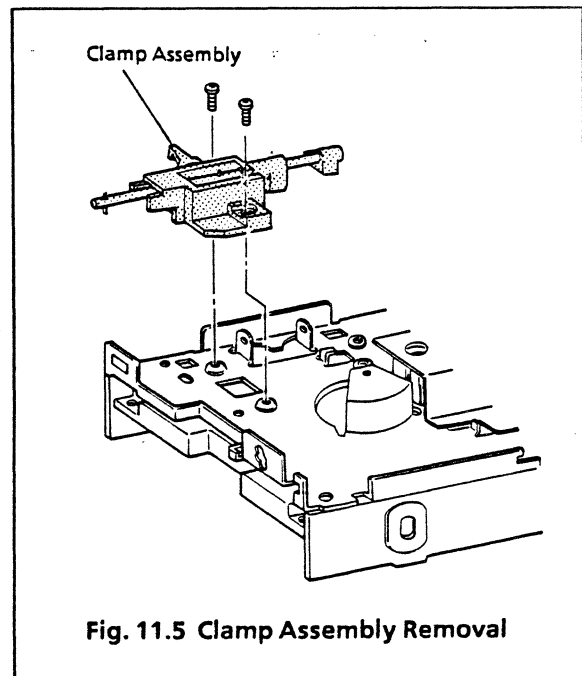

Fig. 11.5 Clamp Assembly Removal
11.5 Clamp Assembly Removal and Installation (See Fig. 11.5)